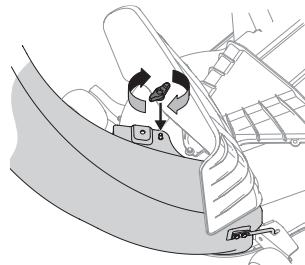

Figure 23
6. Secure the discharge chute elbow to the cutting deck using a wing knob (720-04122) included in hardware pack 689-01419. Refer to Figure 23.